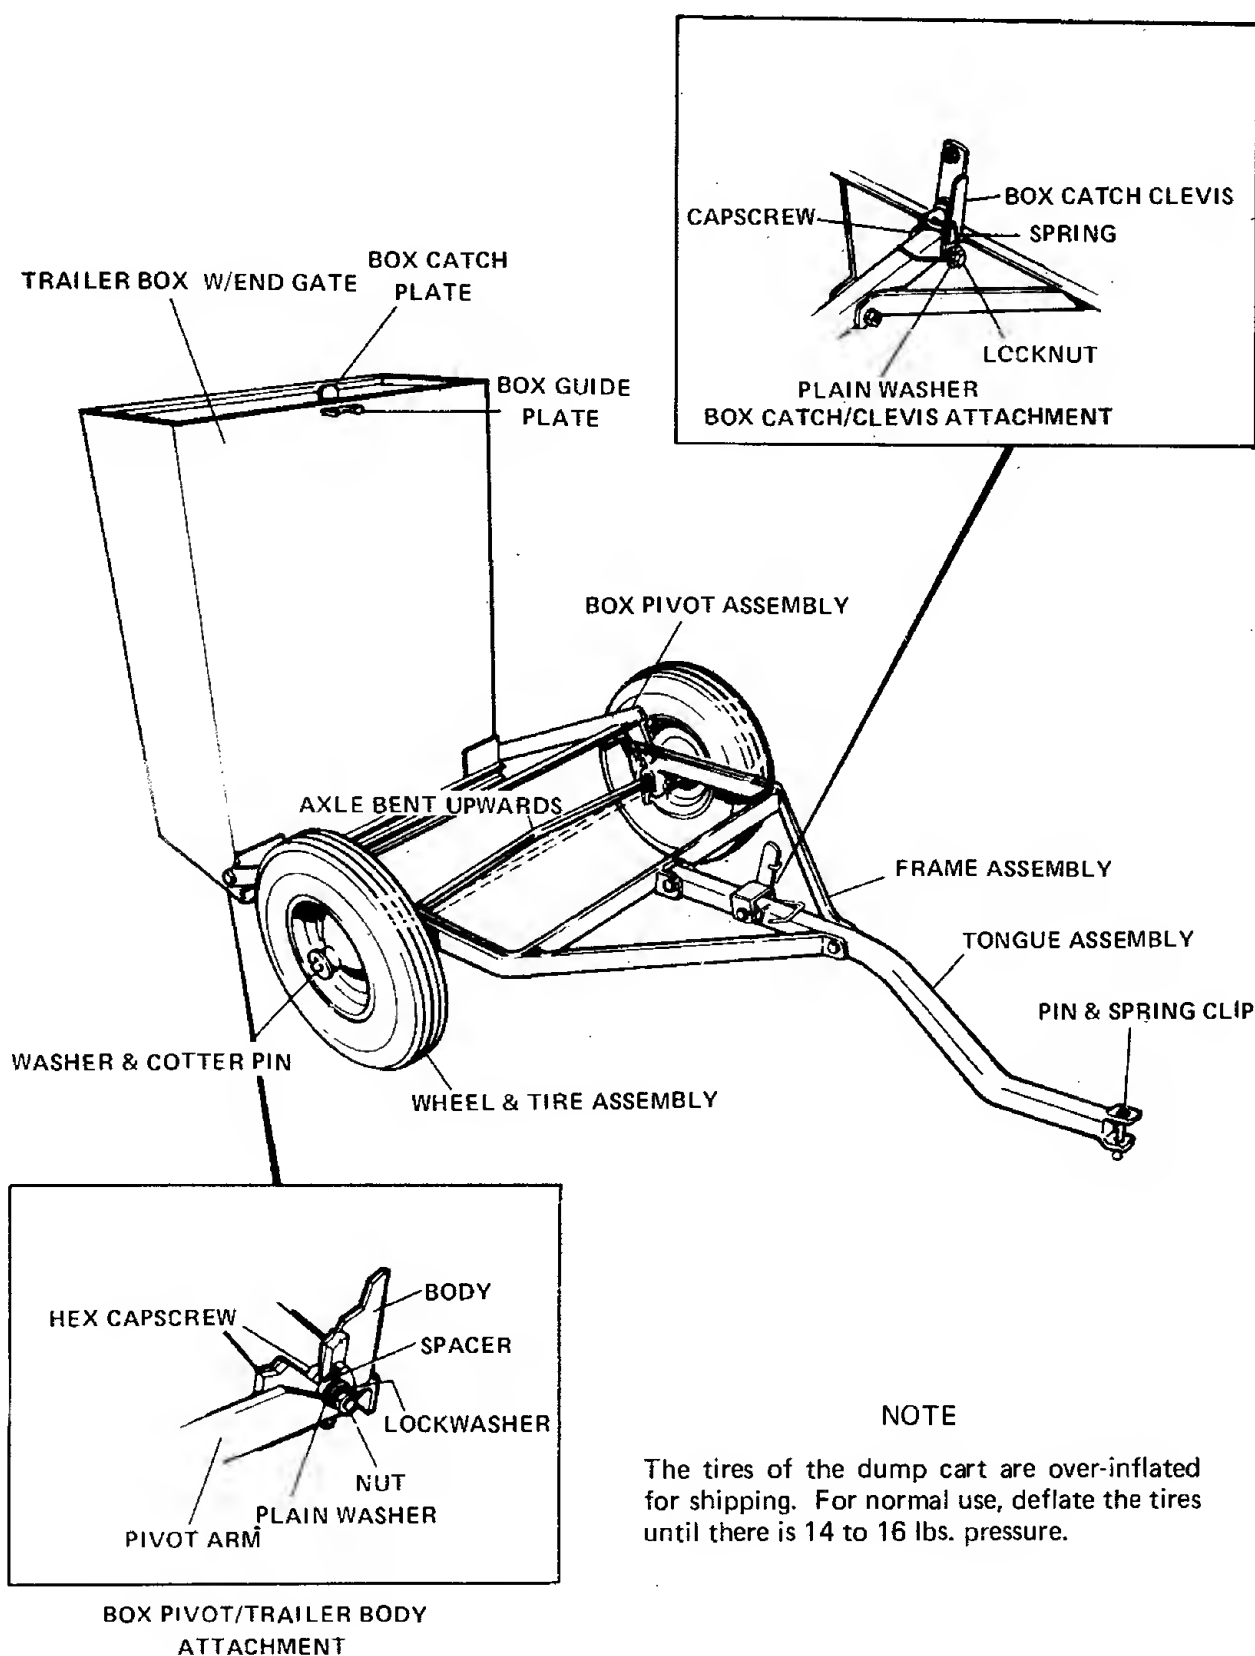

Figure 18. Dump Cart
3. With the bend in the center of the axle facing UP, place the cart frame over the axle so that the U-shaped pads on the axle fit inside the U-shaped brackets on the frame. Attach the axle to the frame with 5/16 x 1-3/4 inch capscrews and locknuts, one through each U-shaped bracket, see figure 18.
4. Attach the cart tongue to the cart frame with the tongue bend sloping downward, that is, the front of the tongue should be lower than the rear. Use two 3/8 x 2-1/4 inch capscrews, lockwashers and nuts (figure 18).
6. Place the dump cart box on its endgate and attach the box to the frame pivot assembly using two $\frac{3}{8}$ x 1 inch capscrews, flat washers, bushing, lockwashers and nuts. Insert the capscrew from the inside of the box. Insert the bushing on the capscrew through the pivot assembly. Place flat washer and lockwasher on the capscrew, and tighten on the nut. (See figure 18.)
7. Attach the box latch clevis to the trailer tongue as shown in figure 18. Insert a $\frac{3}{8}$ x 2- $\frac{3}{4}$ inch capscrew through the clevis and tongue. Place the latch spring on the capscrew, and hook the large end over the tongue, the small end over the latch handle.